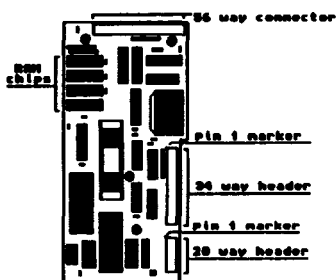

Figure 1.
The 20 and 34 pin headers are to take the 20 and 34 - way flat cables for the hard disc drive data and control (these cables are not supplied with COM 201). The 56 - way connector plugs directly into your Amiga 500. Figure 1 should enable you to identify the connectors.
- Attach the 34-way and 20-way cables on to the appropriate pins (the red lines on the cables should be aligned to pin 1, identified by a small dot on the board, at one corner of each header, pin 1 is shown on Figure 1) on the ST506 Interface board. **Do not** connect the other ends of the cables to the hard drive yet. (If your hard drive has encased cables attach the cables but ensure the hard drive is not connected to the mains supply.)